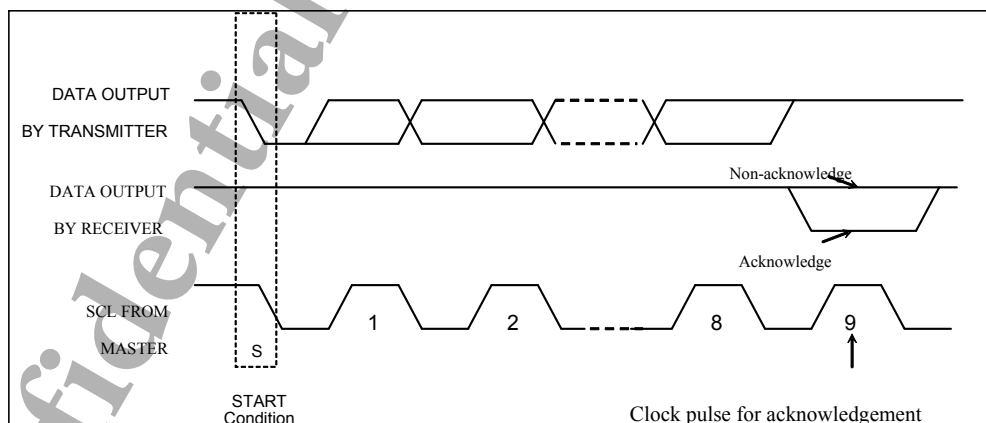

Figure 6-6 : Definition of the acknowledgement condition
- 4) An acknowledgement signal will be generated after receiving one byte of data, including the slave address and the R/W# bit. Please refer to the Figure 6-6 for the graphical representation of the acknowledge signal. The acknowledge bit is defined as the SDA line is pulled down during the HIGH period of the acknowledgement related clock pulse.